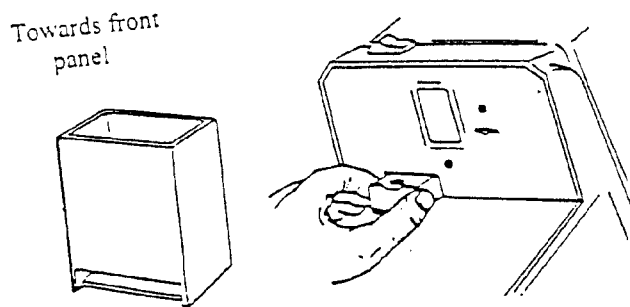

Figure 8
1. To remove condensation drain (see Fig. 8); push in on front panel just under drain and pull down with fingers.